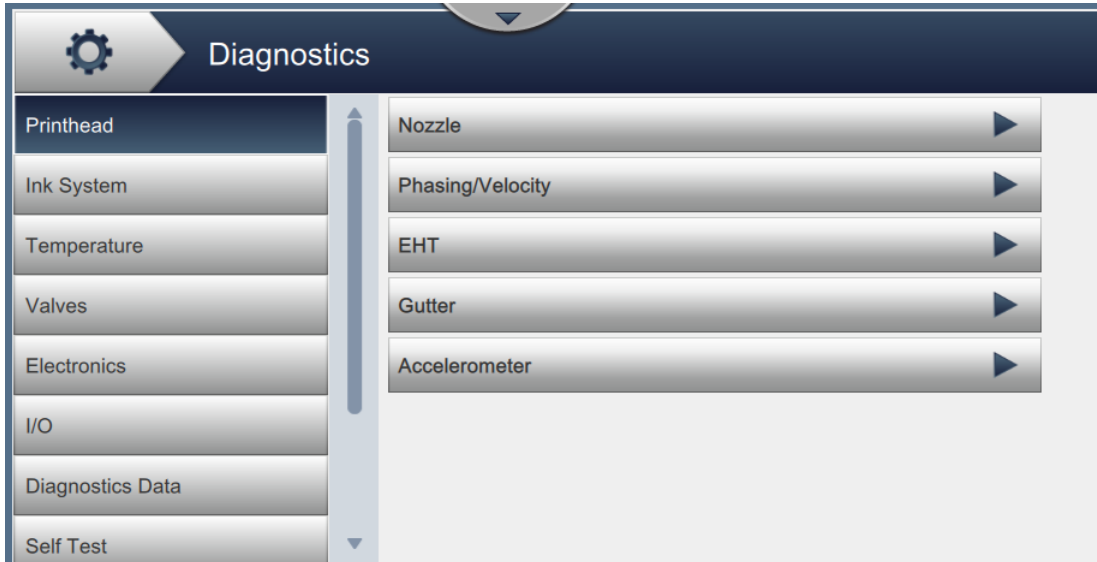

Figure 6-24: Diagnostics
1. Touch the  button from the Tools screen. The Diagnostics screen opens as shown in the Figure 6-24.